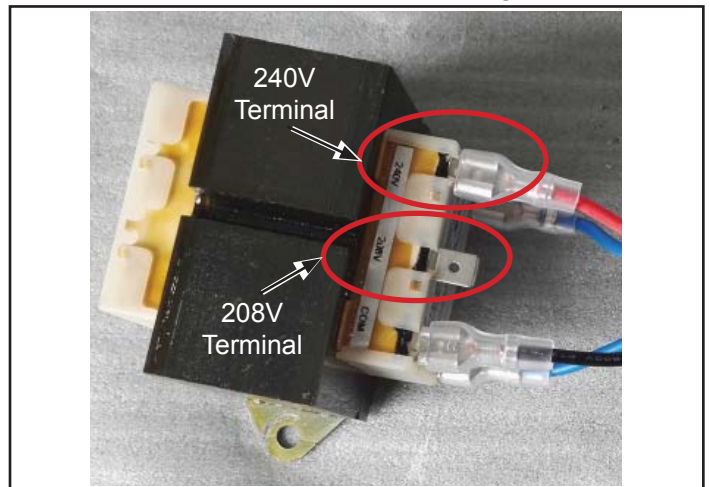

Figure 5. Select 240V or 208V Terminal on Transformer
6. The transformer is factory-wired for 240V. No changes are necessary for 240V applications. For 208V applications, remove the red lead from the 240V terminal and connect it to the 208V terminal on the transformer. See figure 5.